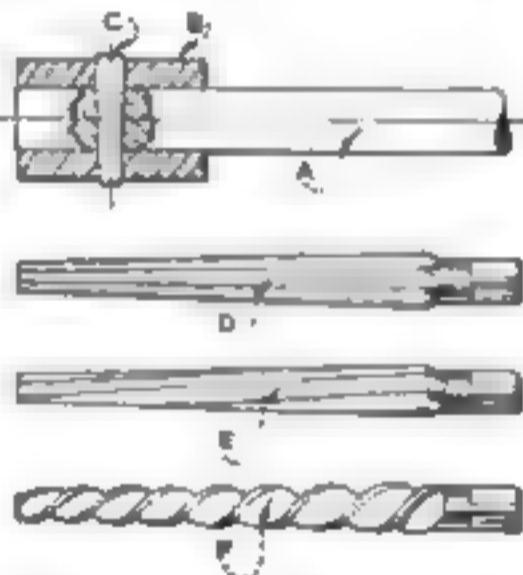

Fig. 1. If you had to ream the hole for the taper pin C, which reamer would you choose?
"Here are a couple of boxes of shafts and collars (A and B, Fig. 1)," explained the young machinist. "I have to drill and ream the hole for the taper pin (C) and assemble the pin. Every little while the reamer seems to catch in the work and pull in. The next thing—snap! it breaks, no matter how carefully I feed it."
GRIMES looked at the work for a moment and then said, "Well, Harvey, a reamer like you are using (D, Fig. 1) is best suited for hand reaming. A spiral fluted reamer (E) would not cause you so much trouble, as the spiral, being cut left-hand, tends to keep the reamer from pulling into the work. I am referring to the regulation taper reamer particularly suitable for machine reaming. There is still another form (F) made with a much greater twist. It is still better for steel work, indeed, it is a special form that is exceptionally good. Let's try the tool crib and see what Charlie has."